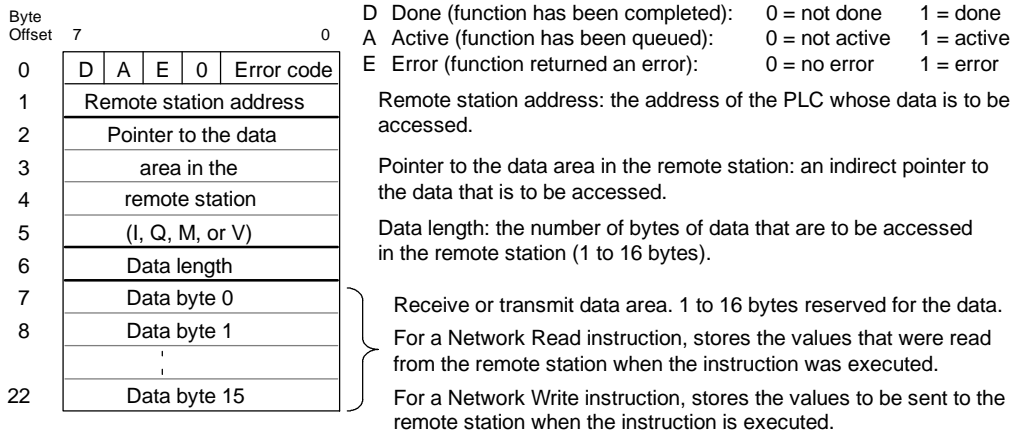

Figure 6-5 TBL Parameter for the Network Read and Network Write Instructions
- If the function returns an error and sets the E bit of table status byte (see Figure 6-5)
Figure 6-5 describes the table that is referenced by the TBL parameter, and Table 6-11 lists the error codes.